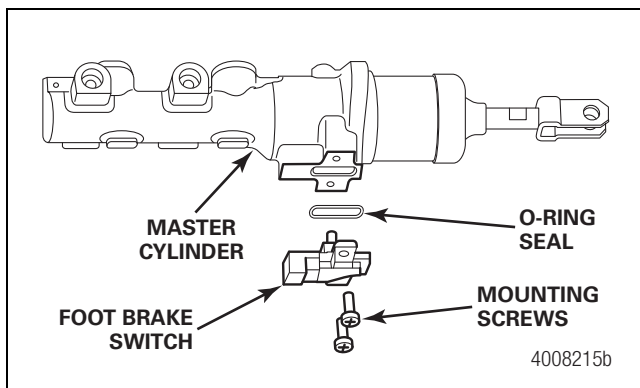

Figure 4.51
2. Install the foot brake switch to the base of the master cylinder. Tighten the two screws to 26.5-35.4 in-lb (3-4 N•m). Figure 4.51.